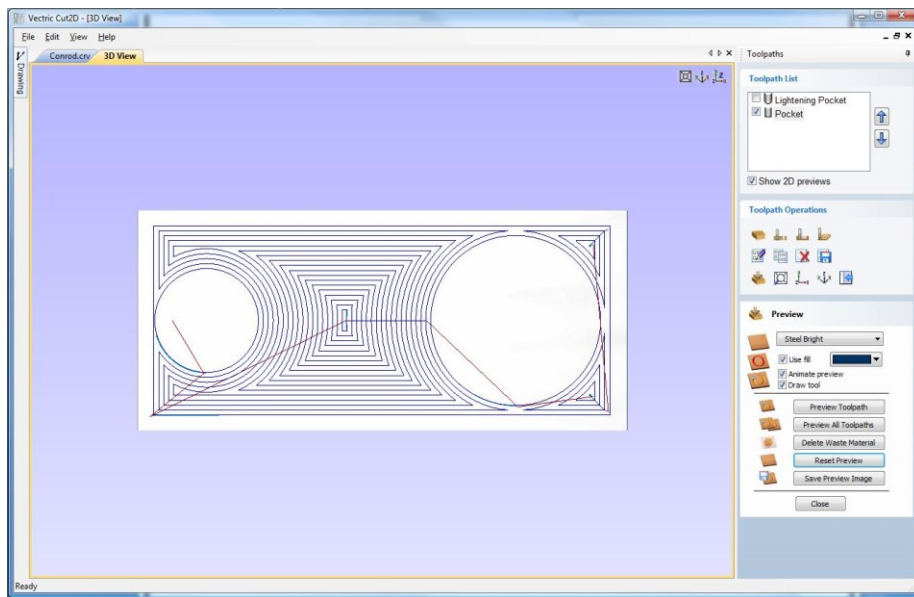

Figure 17. 3D View showing Toolpaths & Material
- Click the **Calculate** button and the resulting toolpath will automatically be drawn in the **3D view** and the **Preview job** form opened, as shown below in Figure 17.